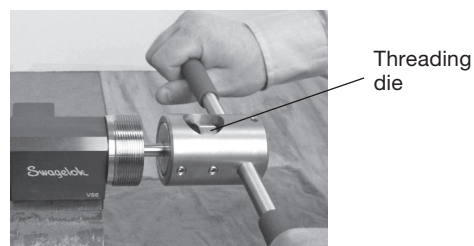

Fig. 38 Sliding the threading tool onto the tube
2. Gently slide the threading tool onto the tube until the threading die makes contact with the end of the tube. (Fig. 38)